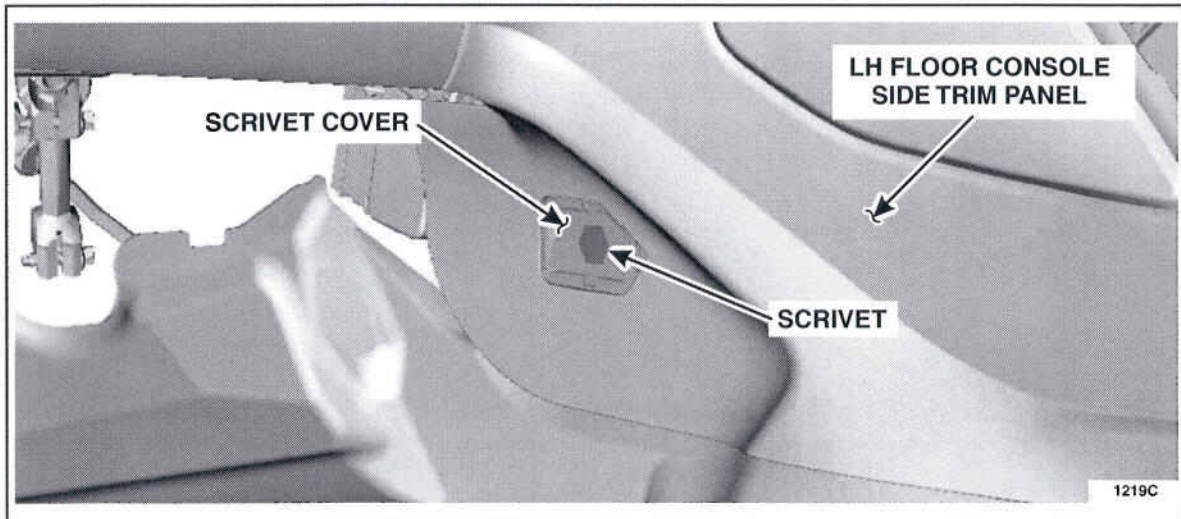

FIGURE 5
6. Remove the scrivet cover and remove the scrivet from the LH floor console side trim panel. See Figure 5.
10. Install the push pin and install the push pin cover. See Figure 5.